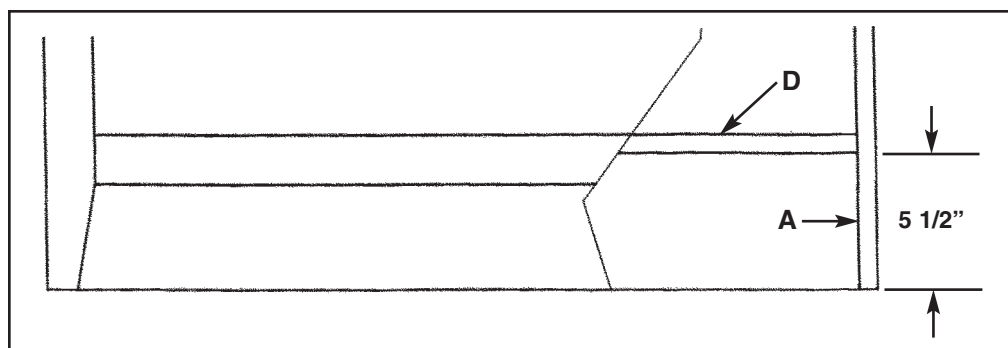

Figure 2
2. Attach boards (A) to board (B) using glue and 1 1/4\" finish nails. Refer to Isometric, Front, Top and Side Views.
3. Attach subassembly (A, B) to boards (C) and (D) using glue and 1 1/4\" finish nails. Refer to Figure 2, Isometric and Front and Side Views. Check for squareness.